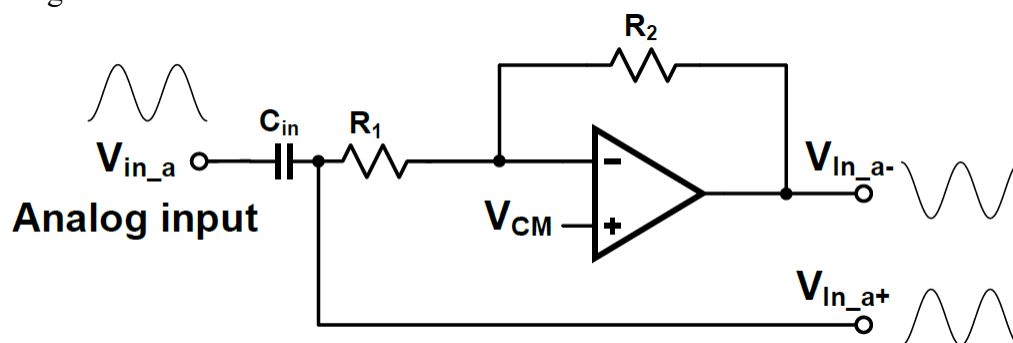

Figure 3 Schematic diagram of single-to-differential converter.
Since outputs (V_{in_a+} and V_{in_a-}) and V_{RAMP} are biased around V_{CM} , common mode shifting of V_{RAMP} is not needed. Therefore $V_{RAMP_CLASS-D}$ can be directly connected to V_{RAMP} . In case common mode of V_{RAMP} is not V_{CM} then it must be shifted to V_{CM} by using a coupling capacitor and resistor (Figure 3) to generate V_{RAMP_B} .
3. Build the complete circuit shown in Figure 3. Verify the functionality in simulation with measurements 1-5.